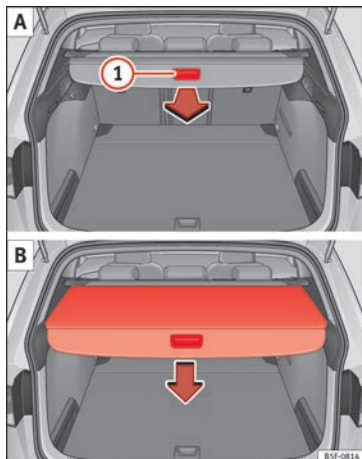

Fig. 161 In the luggage compartment: retracting or pulling out the rear shelf.
- Pull evenly on the rear shelf using its handle » Fig. 161 1 A in a backwards direction until it audibly clicks into place.
- Press the handle of the rear shelf in the direction of the arrow to release it » Fig. 161 B.